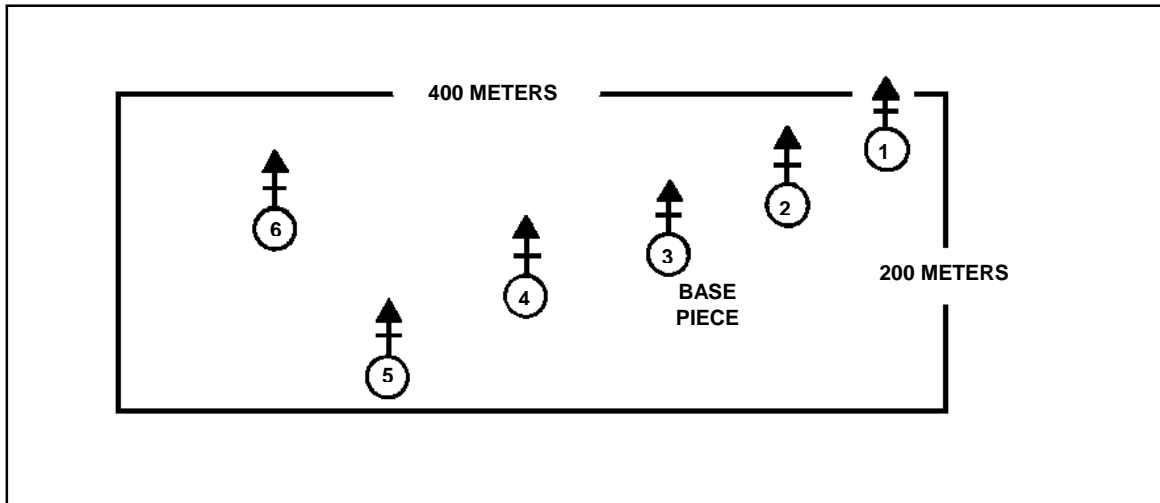

Figure E-6. Dimension parameters for six-mortar platoon.
(1) The TMPCs provide acceptable sheafs on targets as long as the platoon position is within the dimension parameters below:
(2) The box formed by the dimension parameters is centered over the platoon and oriented perpendicular to the azimuth of lay. If the platoon is spread out more than indicated dimensions, a degradation in the effectiveness of sheafs can be expected as fires are shifted throughout the sector away from the center range and deflection (Figure E-6).